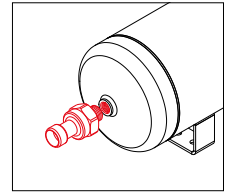

Fig. 17: air tank
2. Mounting directly onto the air tank (Fig. 17)